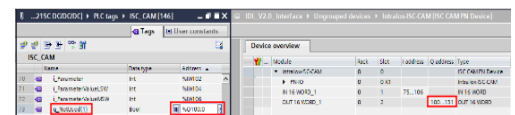

Figure 22: Change Output PLC Tags to Match Device Q Address
58. Change the first output PLC tag "q_NotUsed(1)" "%Q500.0" to match the first "Q address," Figure 22.